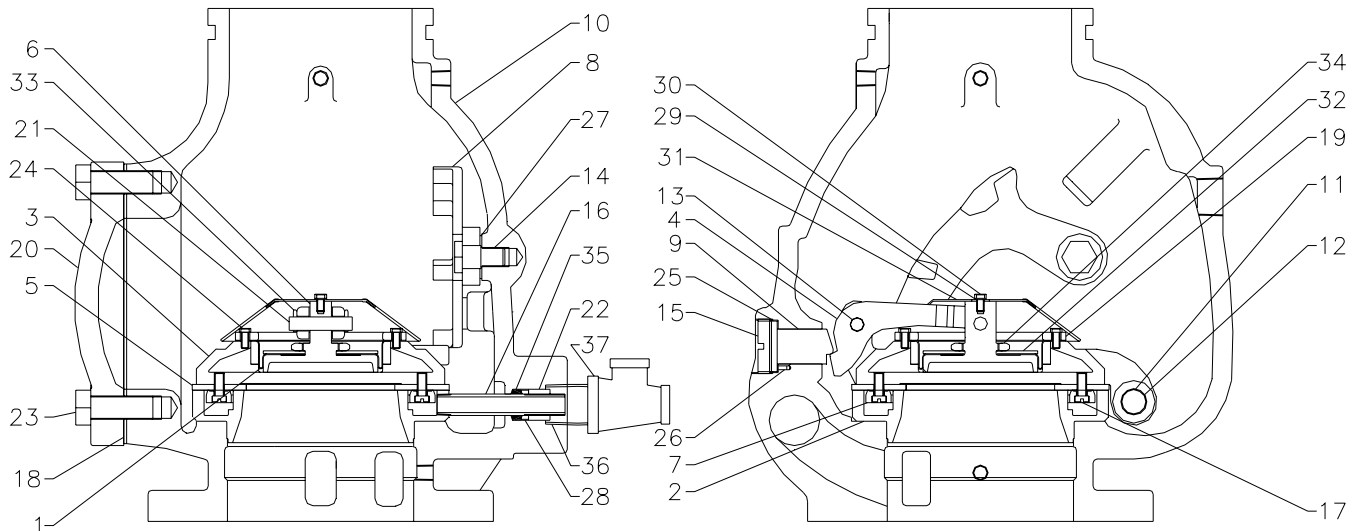

FIG. 3
The differential operating ratio of the Globe Dry Pipe Valve is between 5 to 1 and 6.5 to 1 in terms of water service pressure to normal tripping air pressure. The ratio varies within the range specified, depending on water service pressure. For example, at 20 pounds per square inch water service pressure, the air pressure at the tripping point would be approximately 3 pounds per square inch as indicated on the air gauge. If the water service pressure is 80 pounds per square inch, the air pressure tripping point will be approximately 16 pounds per square inch as indicated on the gauge. The differential tripping ratio is stabilized due to the constant area exposure provided on the top surface of the operating "Bellofram," Item 1 (Fig. 3) Page 5.
Air pressure held in the sprinkler system piping above the Dry Pipe Valve provides "a mechanical force" to hold the valve closed. When an automatic sprinkler operates, or an inspector's test valve is opened, air continually discharging from the opening will reduce the system air pressure to a point below the differential balancing point or normal ratio between air pressure and water service pressure. The balancing, or tripping point, is that pressure at which the dry pipe valve clapper will open and permit water to flow upward into the sprinkler system piping. The valve clapper opens because the mechanical forces holding it closed have been reduced in proportion to the reduction in the system air pressure exerted on the **compression plate**, Item 6 (Fig. 3) through the "Bellofram." As the **compression plate** moves upward at the differential balancing point, the end of the **lever**, Item 4 (Fig. 3) attached to the **compression plate** also moves upward. The forward end of the **lever** pivots on the **pin**, Item 13 (Fig. 3) and disengages the **lever "toe"** with the underside of the **locking stud**, Item 9 (Fig. 3) unlatching the clapper assembly. The clapper assembly rotates upward and back on the **hinge pin**, Item 11 (Fig. 3), allowing an unobstructed passage for water to enter the sprinkler system piping.
A **clapper latch**, Item 8 (Fig. 3) is provided to prevent the
The **seat ring**, Item 2 (Fig. 3), contains two seating surfaces for the **rubber seat ring**, Item 5 (Fig. 3). The outer seat surface provides a seal to retain the air pressure in the system, and the inner surface of the **seat ring** provides a seal against the system water service pressure. The inner area or space between the air seal and the water seal is vented, or channeled, to the outside room atmosphere through the **atmospheric discharge tube**, Item 16 (Fig. 3). A system of "trim" piping is connected on the outside of the Dry Pipe Valve to the **atmospheric discharge tube**. This connects the "between seats" area to a pipe line terminating at a mechanical water motor alarm or an electric alarm switch.
When the valve is in the "set" position (Fig. 3) and the clapper assembly is latched under the extension of the **locking stud**, the area or space between the seat-sealing surfaces is exposed to the atmospheric pressure or normal outside room air pressure.
3. After all system piping has been drained, remove the dry pipe valve **cover plate**, Item 20 (Fig. 3). The valve clapper will be found in the open position and will be held in the open position by the **clapper latch**, Item 8 (Fig. 3), located on the back inside wall of the valve body. Remove any dirt or sediment which may be found on the seat surfaces or inside of the valve.
the **"Bellofram,"** Item 1 (Fig. 3), or through the water inlet seat. Continued leaks occurring at the **mechanical drain** require a close examination of the seating surfaces and condition of the rubber sealing surfaces. If no leakage is evident, then the Dry Pipe Valve is in the normal **"set"** position and the system is considered operative in the event of fire.
Should the "Bellofram," or rubber seat ring, Item 5 (Fig. 3), be damaged requiring replacement, the clapper, Item 3 (Fig. 3), should be removed from the valve. To remove the clapper, place the fingers of your right hand under the back end of the clapper sliding the hinge pin, Item 11 (Fig. 3), towards you and out through the hole provided in the body of the valve. The hole is normally covered by the cover plate. Cover the bronze metal seat in the valve with a soft rubber material or cardboard to prevent damage to metal surfaces while removing the clapper assembly.
Place the clapper face down on a suitable working surface. Remove the top **cap screw**, Item 30 (Fig. 3), and **pin**, Item 13 (Fig. 3). Remove the **shield**, Item 31 (Fig. 3), **pin**, Item 21 (Fig. 3), and the **lever**, Item 4 (Fig. 3). Remove the **nut**, Item 34 (Fig. 3), and **memory washer**, Item 32 (Fig. 3). Remove all **cap screws**, Item 24 (Fig. 3). Remove the **clamping ring**, Item 19 (Fig. 3), and replace the **"Bellofram"** with one of proper size and material as supplied by the manufacturer. Install the new **"Bellofram"** with printed wording down against the upper surface of the **compression plate**, Item 6 (Fig. 3). Make certain that the **"Bellofram"** when installed takes the shape illustrated in Fig. 3. Replace the **clamping ring** and **cap screws**. Place **compression plate** in upper recess of clapper. Place the **memory washer** in position and tighten the **nut**. Continue to follow the reverse procedure as outlined above for complete assembly of the clapper unit and insert the assembly into the valve without damaging the seat. Insert the hinge in its proper location. Follow the procedure as outlined under the instructions "To Set the Valve."
With a wide blade flat end screw driver, remove all of the **retaining screws**, Item 17 (Fig. 3). Remove the **retaining ring**, Item 7 (Fig. 3). Remove the **rubber seat ring**, Item 5 (Fig. 3) and replace with one of proper size as supplied by the manufacturer. Replace the **retaining ring** aligning all screw holes. Insert all **retaining ring screws**. One at a time, tighten each screw slightly in a circular pattern until each screw is reasonably tight. Do not overtighten screws. The reason for this procedure is to insure that the **retaining ring** will not bend and that tightening forces are applied evenly against the rubber. If one screw is tightened ahead of another, the rubber ring will be squeezed out causing one section to be higher than the other. An uneven rubber surface will cause difficulty in obtaining a good seal against the seat surface and may even cause water or air leaks at the sealing surfaces.